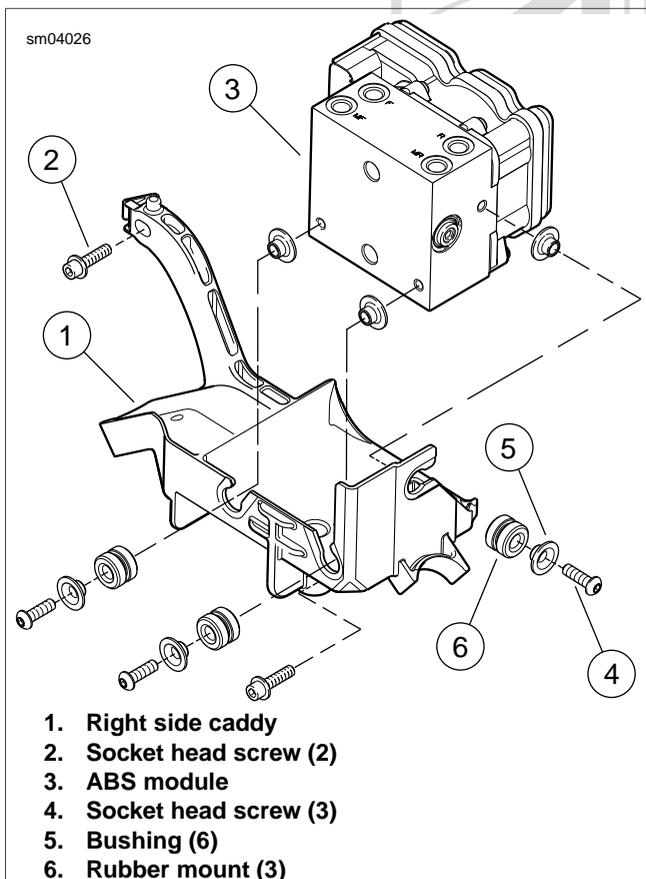

Figure 8-11. Right Side Caddy (ABS Equipped)
8. Remove three screws to release ABS module from caddy. See Figure 8-11.